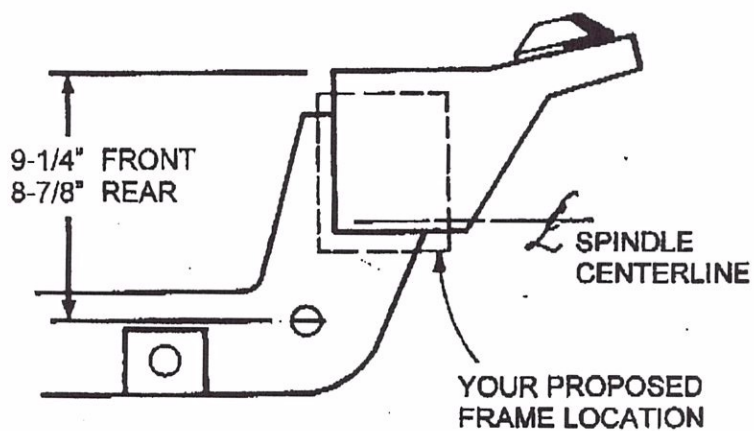

Figure 1
2. Now you must determine the ride height of the front suspension, and actually of the entire car, as the frame must also be set at the correct rake that you intend the finished car to sit. Adjust the height of the frame, or the entire car, to this height, and then support the frame on jack stands with shims at this height. Now check the height of the spindle, again using your set-up wheel, compared to the height of the frame rail, at the axle centerline. Mark the actual spindle centerline height on the side of the frame rail (You may want to subtract 1/4" from the centerline location for flattening of the tires under pressure). If it comes through the wheel below the frame rail, then temporarily tape a piece of cardboard to the side of the rail to mark the centerline on. The bottom of the frame should be no lower than one inch below the spindle and the top not more than four inches above the spindle. As you see, you can adjust the ride height of your car within this range, if your frame is smaller than these dimensions (See Figure 1). You can also adjust the position of the crossmember, and the frame, with 2" Dropped Mustang II Spindles, if the frame does not fall within this range. Note that if the frame is more than 1/2" below the spindle, it will need to be C-notched for the rack boots, if you do not use dropped spindles. Also note that if you have a thicker frame, just slice a 12" long section off and box in the top of the frame for the spring tower and upper control arm clearance. The depth of this slice will be determined in a later step.